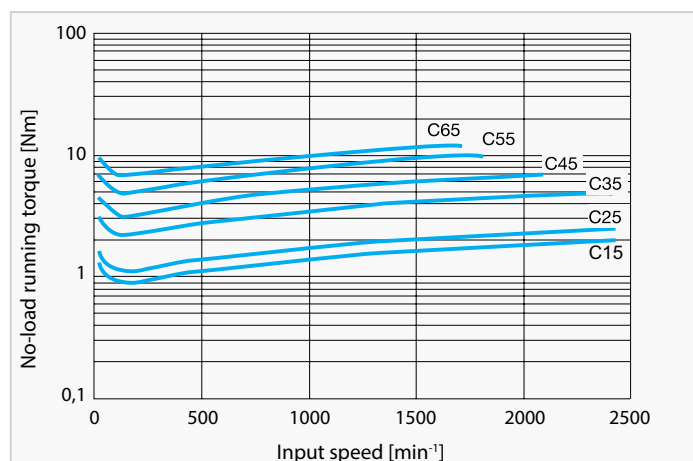

Fig. C1 Input side no-load running torque
1. Fig. C1 shows the average no-load running torque after gearbox is run in (not factory-new condition).